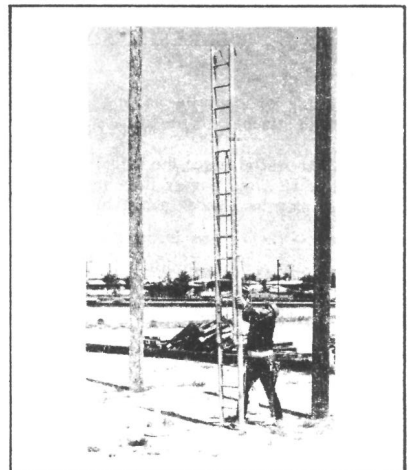

FIGURE 7.
4.07 When raising or lowering the top section of an extension ladder, keep hands and feet off the rungs. When the top section is being lowered, stand clear so that it will not strike the feet. See Figure 7.